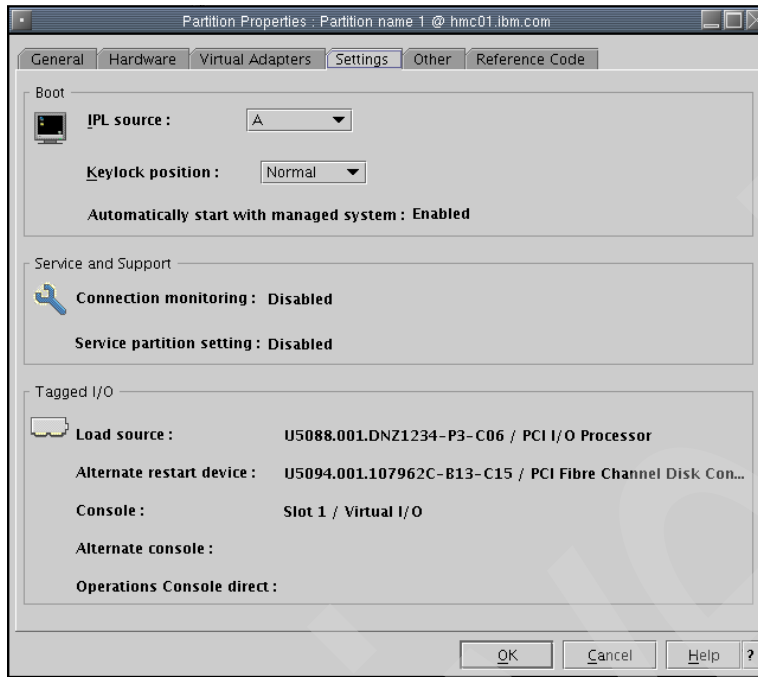

Figure 6-18 Partition settings
The **Settings** tab (Figure 6-18 on page 192) shows information about partition boot, service support and tagged I/O.
3. Select the **Settings** tab. This dialog is shown in Figure 6-18.